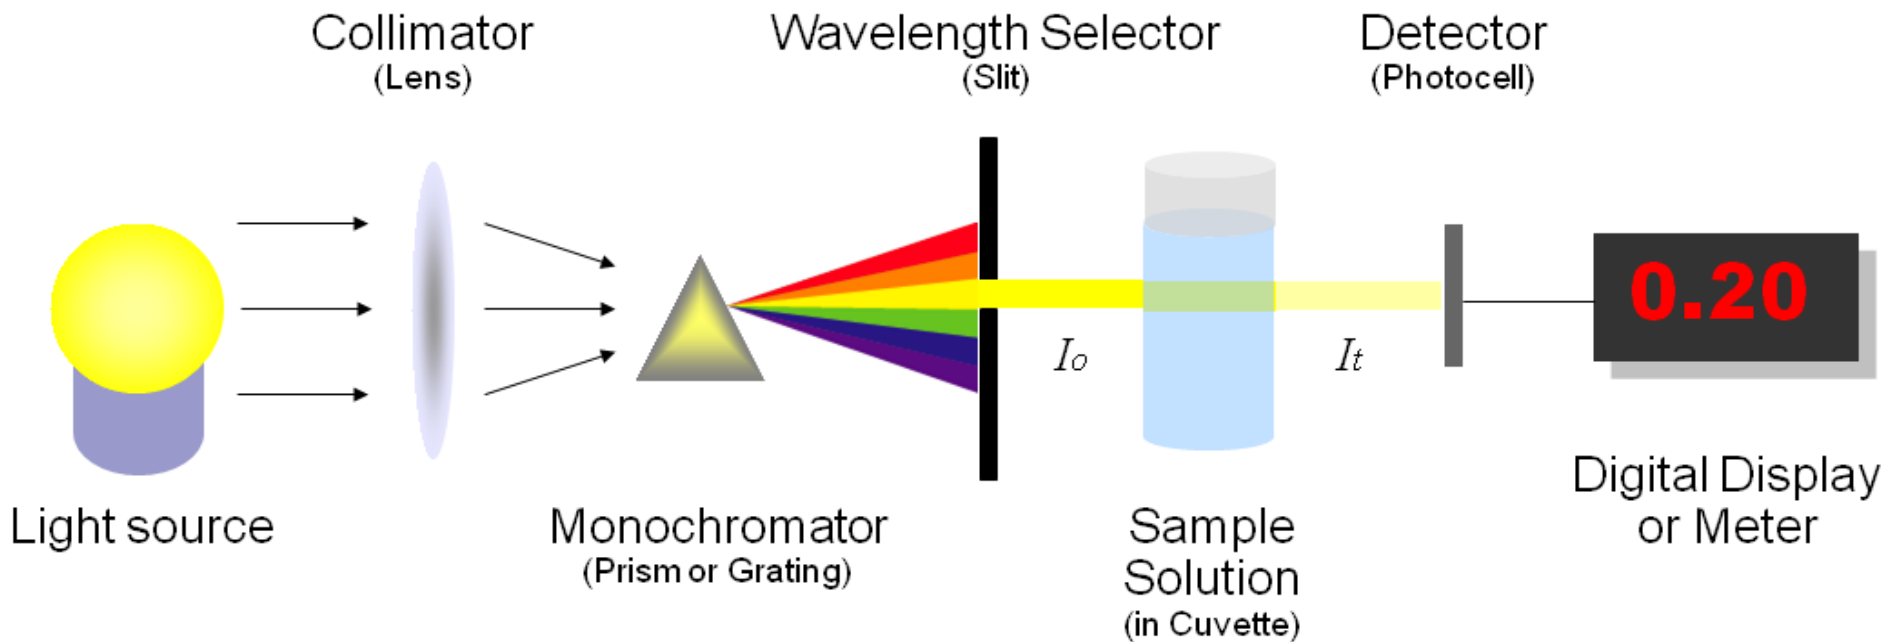

FIG 6.Components of spectrophotometer.
- ***Ultraviolet-visible spectrum*** consists of an absorption spectrum. An absorption spectrum gives information about the *molar absorptivity*, *concentration of the sample*, *optical bath length*. See figure6, in previous slid.